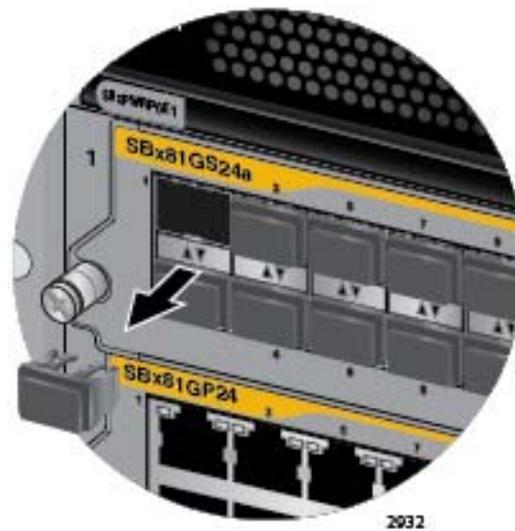

Figure 82. Removing the Dust Cover from an SFP Slot in the AT-SBx81GS24a Line Card
2. Remove the dust cover from the SFP slot chosen for the transceiver, as shown in Figure 82.